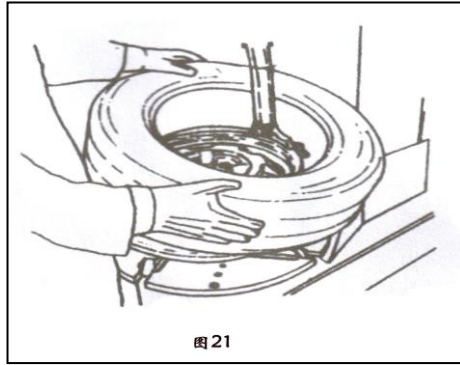

FIG 21
4.2.2 Spread the lubrication liquid or soap liquid around the lip. Tilt the tire against the rim and keep the front end upwards. Press down the hexangular shaft to move the demount arm to contact with the rim and lock. The left lip above the tail of the demount tool and the right lip will be positioned under the front end of the demount tool (FIG 21) , Clockwise rotate the turntable to guide the bottom lip into the tire detaching slot.